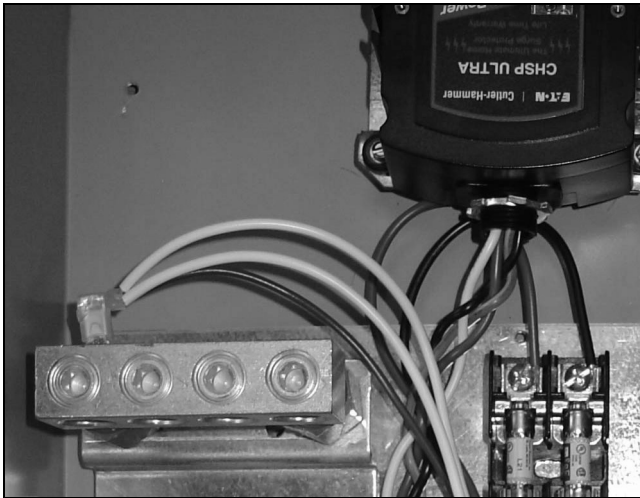

Figure 85. Braided TVSS Wires.
Step 8: Connect the red and black TVSS wires to the TVSS fuse block, as shown, using a blade screwdriver (see Figure 85).